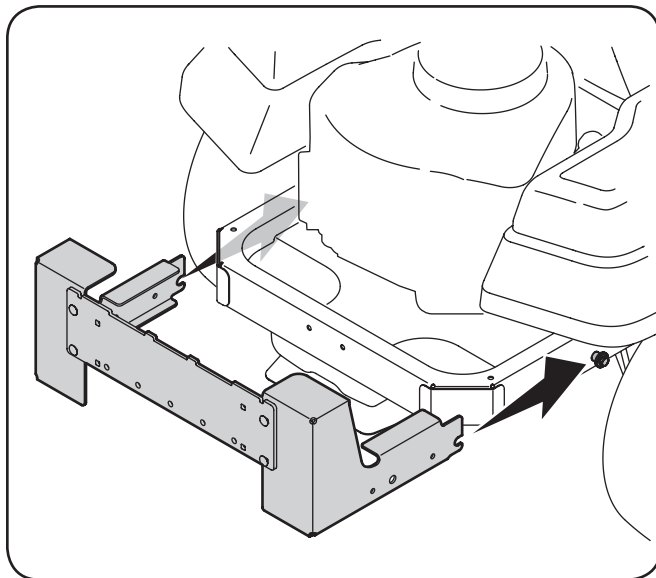

Figure 4-4
1. Slide the mounting bracket assembly along the frame rails of the tractor until the hooks in the mounting brackets align under the shoulder bolts on your tractor, as seen in Fig. 4-4.